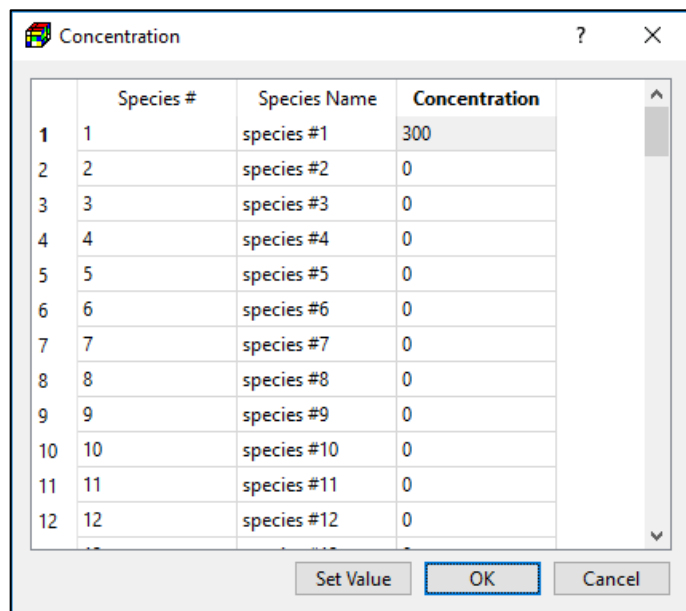

Figure 48. The Concentration dialog box
- **Concentration (MT3D/SEAWAT) [ML⁻³]:** Click the **Edit** button to open the Concentration dialog box (Figure 48) that allows you to specify the return flow concentration of up to 100 species. You can either enter individual concentration values to the table directly or click the *Set Value* button to enter a uniform value for all species. The entered concentration values may be used by the SSM Package of MT3D or SEAWAT.
(MT3D/SEAWAT) [ML⁻³]: Click the **Edit** button to open a Concentration dialog box (Figure 48) that allows you to specify the return flow concentration of up to 100 species to the current vertex.
- **Concentration (MT3D/SEAWAT) [ML⁻³]:** Click the **Edit** button to open a Concentration dialog box (Figure 48) that allows you to specify the return flow concentration of up to 100 species to the current polygon.
- **Concentration (MT3D/SEAWAT) [ML⁻³]:** Click the Edit button to open a Concentration dialog box (Figure 48) that allows you to specify the source water concentration of up